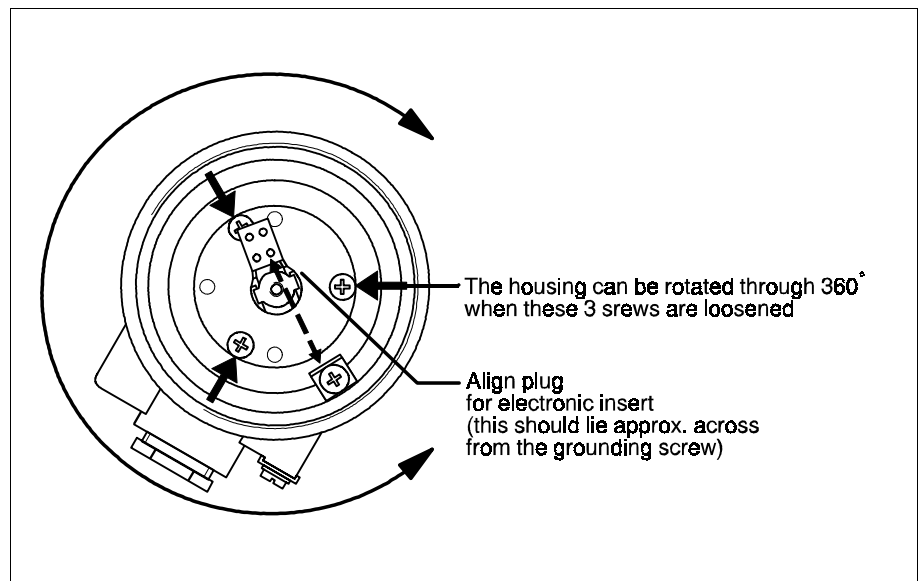

Fig. 7
- Slightly loosen the 3 screws in the housing, see Fig. 7.